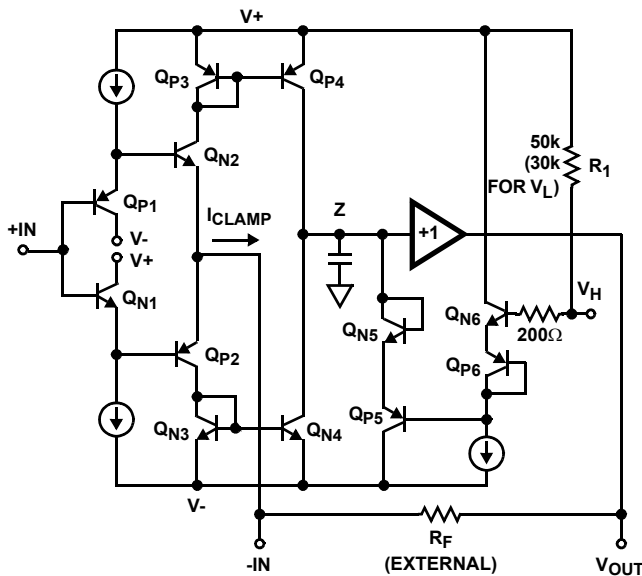

FIGURE 1. HS-1135RH SIMPLIFIED V_H CLAMP CIRCUITRY
Figure 1 shows a simplified schematic of the HS-1135RH input stage, and the high clamp (V_H) circuitry. As with all current feedback amplifiers, there is a unity gain buffer ($Q_{X1} - Q_{X2}$) between the positive and negative inputs. This buffer forces $-IN$ to track $+IN$, and sets up a slewing current of $(V_{-IN} - V_{OUT})/R_F$. This current is mirrored onto the high impedance node (Z) by $Q_{X3} - Q_{X4}$, where it is converted to a voltage and fed to the output via another unity gain buffer. If no clamping is utilized, the high impedance node may swing within the limits defined by Q_{P4} and Q_{N4} . Note that when the output reaches its quiescent value, the current flowing through $-IN$ is reduced to only that small current ($-I_{BIAS}$) required to keep the output at the final voltage.
The clamped output voltage will not be exactly equal to the voltage applied to V_H or V_L . Offset errors, mostly due to V_{BE} mismatches, necessitate a clamp accuracy parameter which is found in the device specifications. Clamp accuracy is a function of the clamping conditions. Referring again to Figure 1, it can be seen that one component of clamp accuracy is the V_{BE} mismatch between the Q_{X6} transistors, and the Q_{X5} transistors. If the transistors always ran at the same current level, there would be no V_{BE} mismatch, and no contribution to the inaccuracy. The Q_{X6} transistors are biased at a constant current, but as described earlier, the current through Q_{X5} is equivalent to I_{CLAMP} . V_{BE} increases as I_{CLAMP} increases, causing the clamped output voltage to increase as well. I_{CLAMP} is a function of the overdrive level $(V_{-IN} - V_{OUTCLAMPED})$ and R_F , so clamp accuracy degrades as the overdrive increases, or as R_F decreases. As an example, the specified accuracy of $\pm 60mV$ for a 2X overdrive with $R_F = 510\Omega$ degrades to $\pm 220mV$ for $R_F = 240\Omega$ at the same overdrive, or to $\pm 250mV$ for a 3X overdrive with $R_F = 510\Omega$.